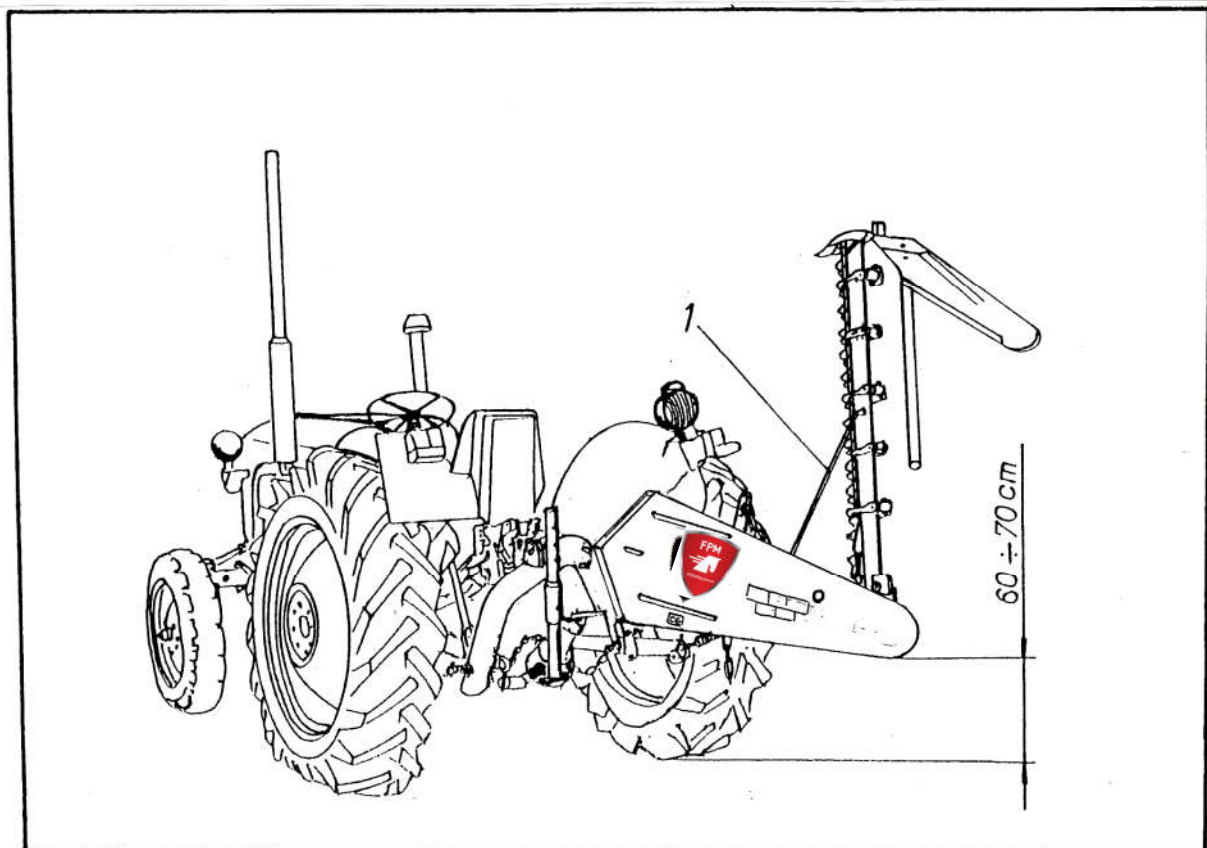

Figure 2
After assembly is carried out in the service workshop of certain sub-assemblies, the two-piece cutting-edge bars are delivered to the transport position as shown in Figure 2.
- Release the mower for the transport position (Fig. 2, Item 1) and attach it to the eyelet located on the mower's frame (figure 4, item 1).